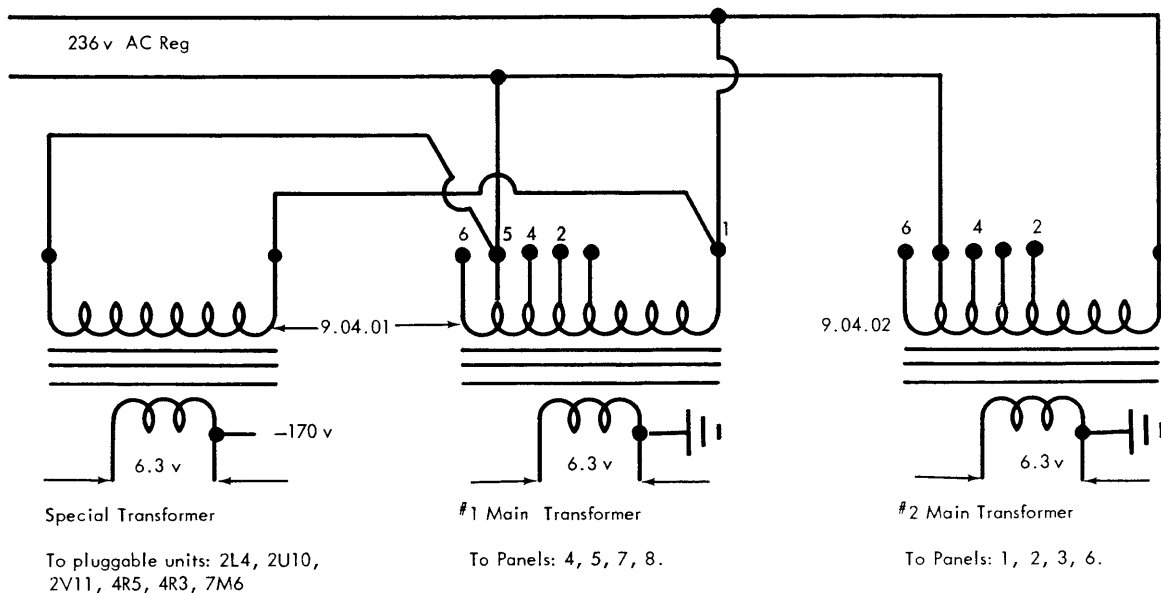

Figure 16. Filament Transformers
- c. Do not separate the tapped leads on #1 main transformer, when moving them, if the secondary voltage on the special transformer is correct. (The special transformer connecting wire is size #16 and the #1 main transformer connecting wire is size #14.) Always check secondary voltage of special transformer after adjusting #1 main transformer (See "Special Transformers" and Figure 16).
3. Move size #16 wire (smaller of the two) primary lead on #1 main transformer one tap higher to increase, or lower to decrease, the secondary voltage on the special transformer  $2\frac{1}{2}\%$ . Do not move the leads on #1 tap of main transformer (See Figure 16).